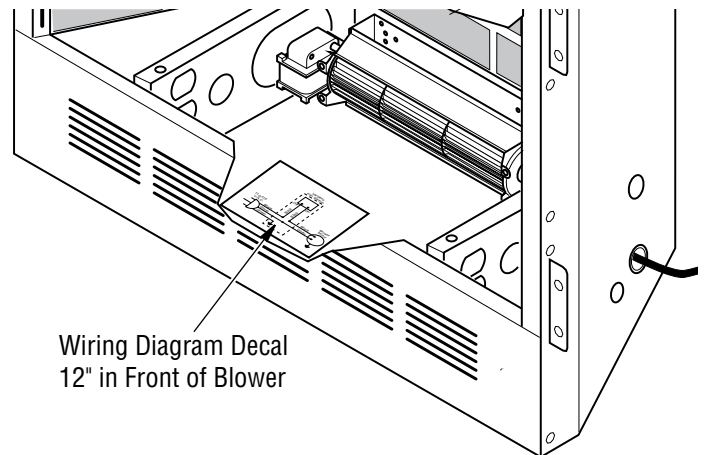

Figure 12: Location of Wiring Diagram Decal (Model May Vary From Illustration)
6. Peel off the backing paper and stick the supplied wiring diagram decal on the firebox bottom approximately 12" in front of the blower (see Figure 12).